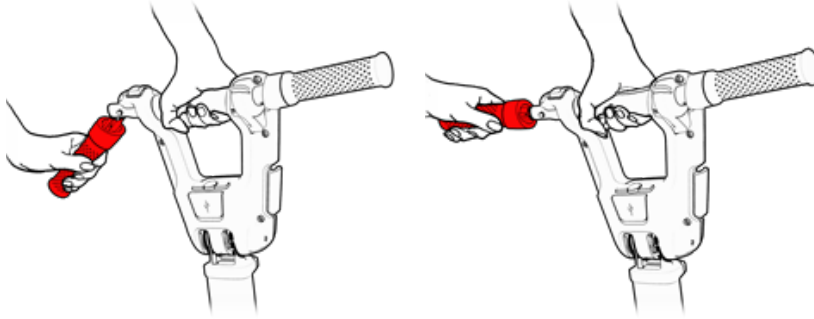

Figure 16
12. Open both sides of the handlebar (Figure 16).